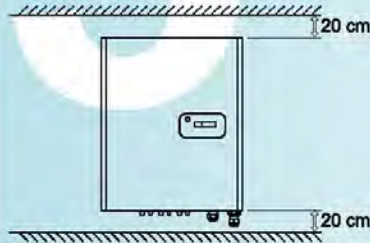

Fig. 1
- To ensure natural convection for the heat sink, ensure at least 20 cm of open space above and below the device (Fig. 1).